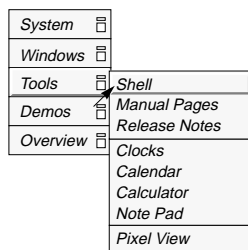

Figure 2-2
1. Open a shell window (Figure 2-2).